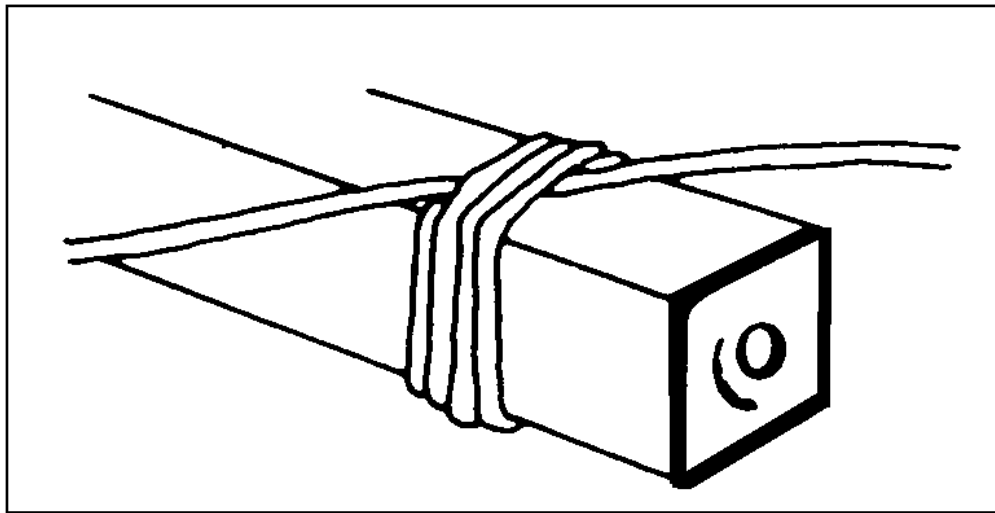

Figure 051-193-1311-1
- a. Common Method: Lay one end (1-foot length) of detonating cord at an angle across the explosive. Wrap the running end around the block three turns, laying the wraps over the standing end. On the fourth wrap, slip the running end under all the wraps, parallel to the standing end, and draw the wraps tight. This forms a clove hitch with two extra turns (Figure 051-193-1311-1).